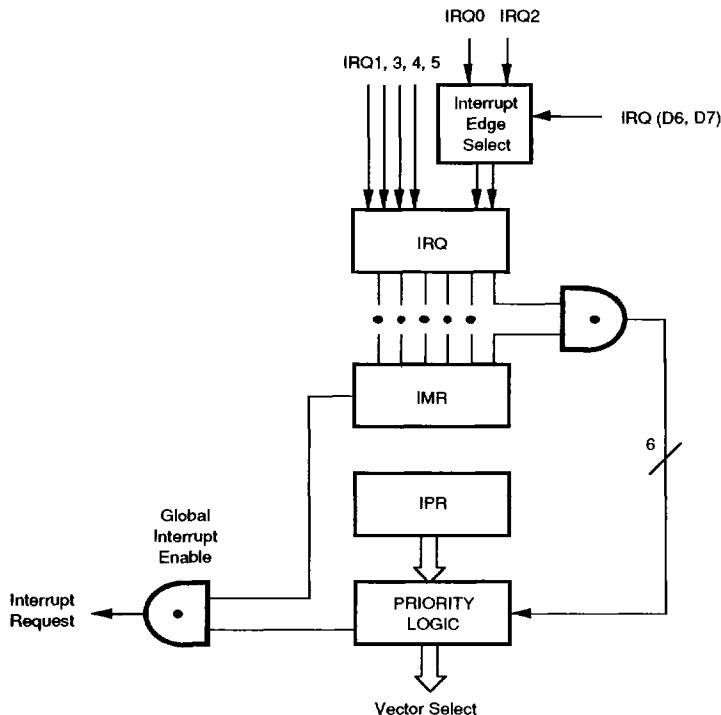

Figure 11. Interrupt Block Diagram
**Interrupts.** The Z86C30 has six different interrupts from six different sources. The interrupts are maskable and prioritized (Figure 11). The six sources are divided as follows: four sources are claimed by Port 3 lines P30-P33 and two in counter/timers. The Interrupt Mask Register globally or individually enables or disables the six interrupt requests (Table 3).